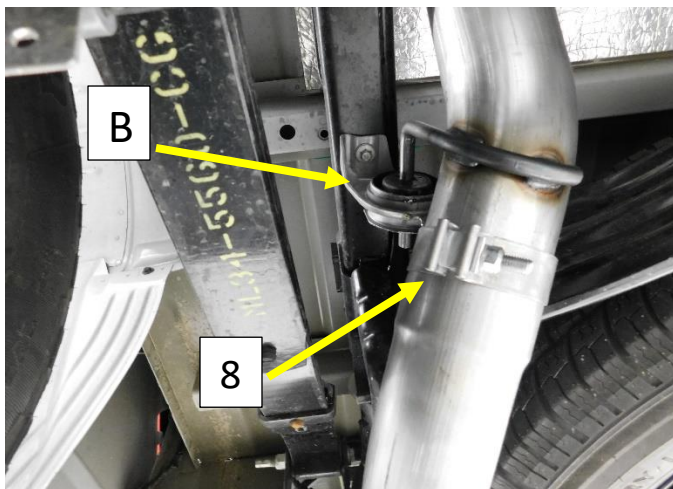

Figure 7
9. Install the frame hanger (B) on to the hanger rod just over the axle. Install the (x2) bolts. **Fig. 7**
10. Install a 3.5" band clamp (8) on to the expanded end of the tailpipe. **Fig. 7**